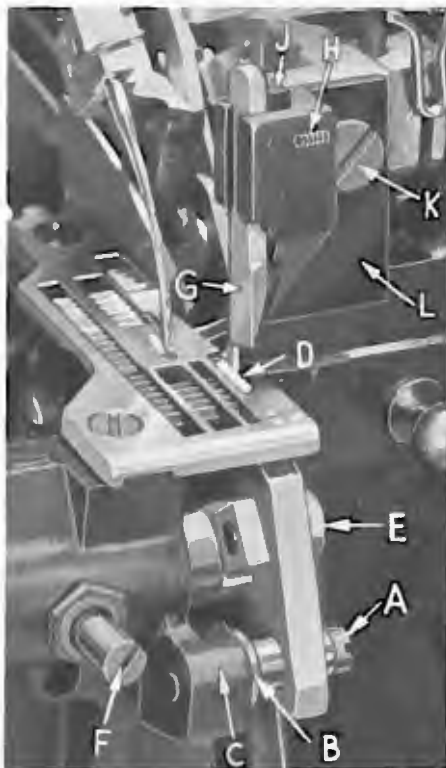

Fig. 15
Replace lower knife holder assembly. In replacing lower knife holder assembly, tighten screw (A, Fig. 15) so that when the face of the flange on sleeve (B) seats against throat plate mounting bracket (C) a free lateral motion of the lower knife and holder assembly is obtained when the knife is manually pressed at its upper corner. Lower knife (D) should be set with cutting edge flush with throat plate surface. Adjustments are made with hexagonal head screw (E) which holds the lower knife. Lower knife is spring pressed against the upper knife, so no lateral adjustment is necessary when the width of trim is changed.
Replace upper knife assembly. Clamp upper knife (G, Fig. 15) in position, setting allen screw (H) to hold clamp (J) against the upper knife. At bottom of its stroke, front cutting edge of upper knife should extend not less than 1/64 inch below cutting edge of the lower knife.
Replace upper knife assembly. Clamp upper knife (G, Fig. 15 A) in position, setting nut (H) to hold clamp (J) in its most clockwise position against upper knife. At bottom of its stroke, front cutting edge of upper